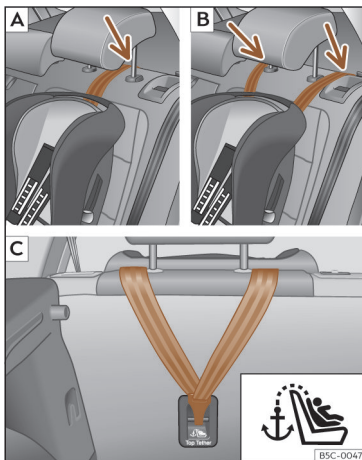
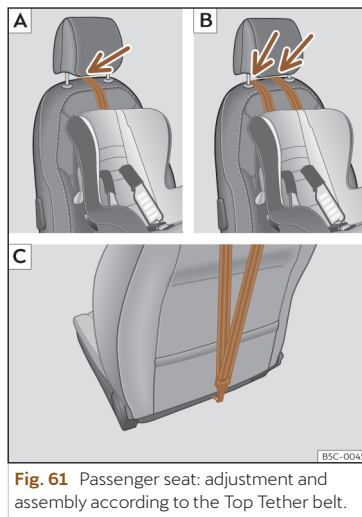

Fig. 60 Rear seats: adjustment and assembly according to the Top Tether belt.
Fig. 61 Passenger seat: adjustment and assembly according to the Top Tether belt.
- Position the belt under the headrest (depending on the instructions of the seat itself, lift or remove the headrest if necessary) >>> **Fig. 60 [A/B]**, >>> **Fig. 61 [A/B]**.
- Slide the strap and secure it properly with the anchor on the rear seat backrest >>> **Fig. 60 [C]**, >>> **Fig. 61 [C]**.